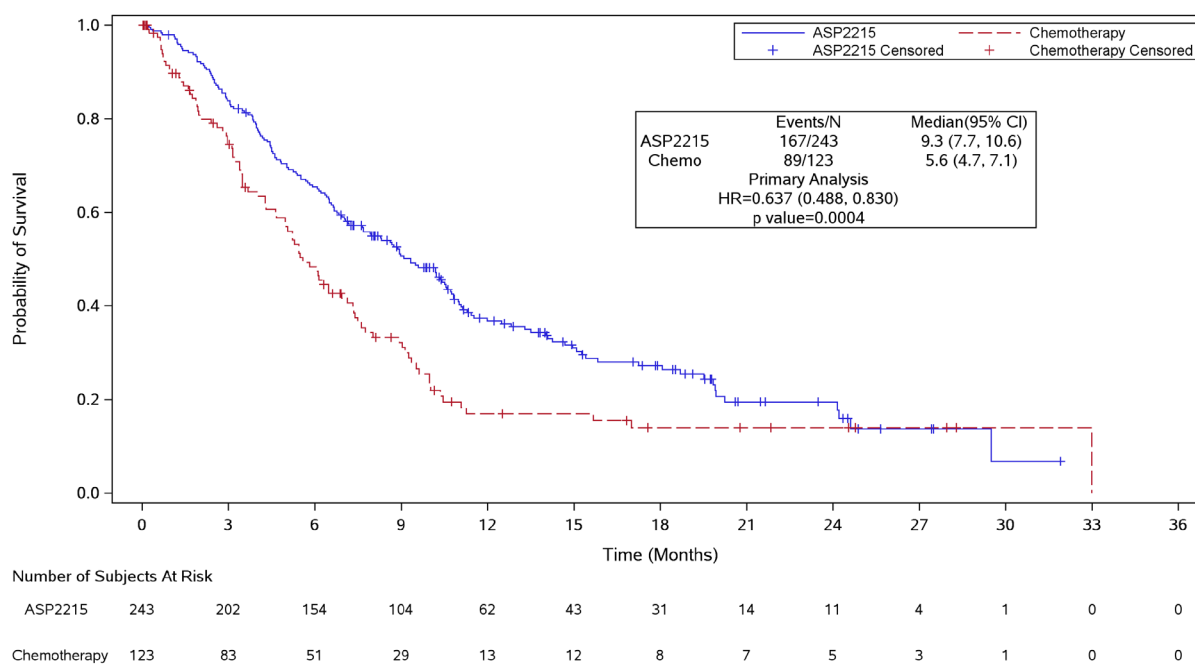

Figure 9 - Kaplan-Meier plot of overall survival.
- 17.6.2. At the final analysis, the median OS in the gilteritinib fumarate arm was longer (9.3 months) compared to that in the salvage chemotherapy arm (5.6 months) in the CDx+ population. The stratified hazard ratio (HR) by Cox regression was estimated to be 0.637 (95%CI 0.488, 0.830) relative to salvage chemotherapy, p-value (1-sided, stratified log rank) = 0.0004, corresponding to a relative risk reduction of death in favor of gilteritinib fumarate. The Kaplan-Meier plot is provided in Figure 9.